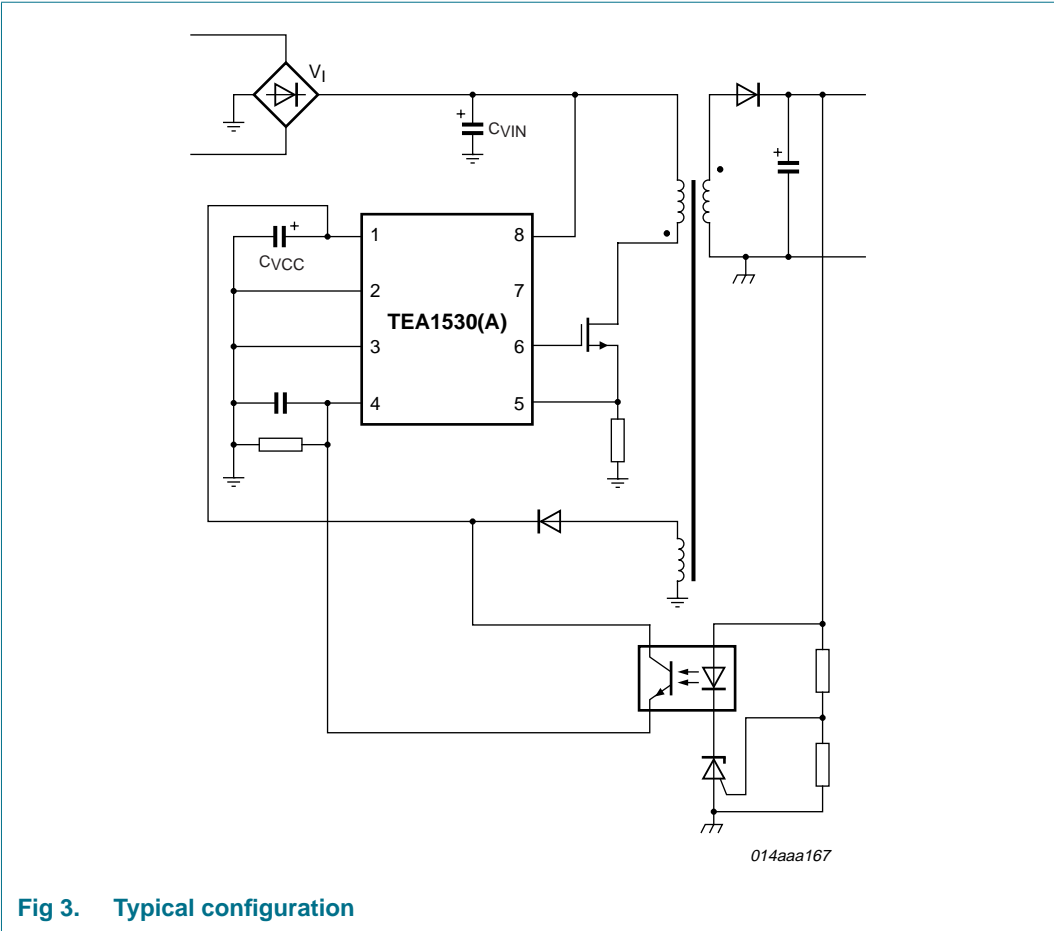

Fig 3. Typical configuration
The TEA1530(A) is the controller of a compact flyback converter, with the IC situated at the primary side. An auxiliary winding of the transformer powers the IC after start-up; see Figure 3.